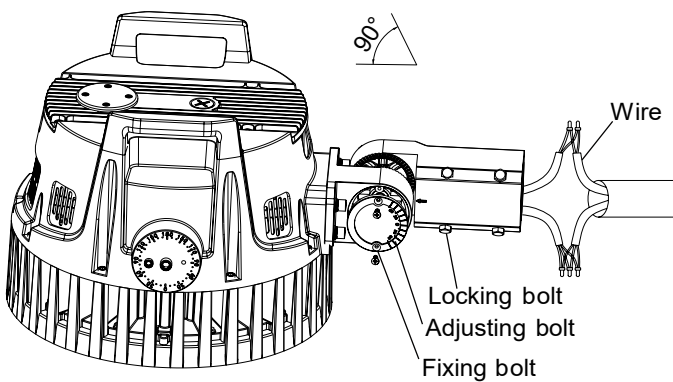
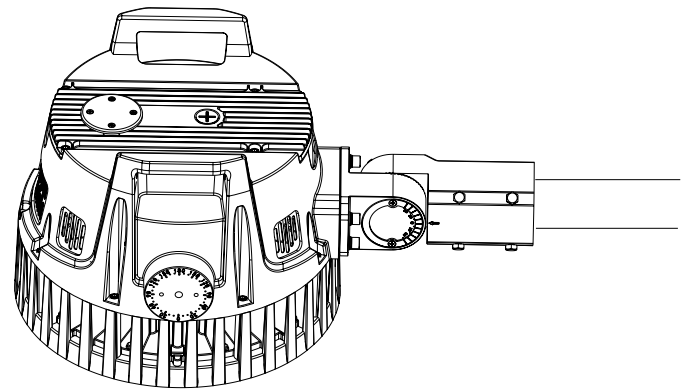

Figure 14
Figure 15
1. Loosen the four (4) locking bolts on the slip fitter, connect the wire correctly, and put the wire into the pole. Then fasten the locking bolts between the slip fitter and the pole (Figure 14).
2. Loosen the fixing bolts and adjusting bolts, align the fixture to the required angle. Tighten adjusting bolt and fixing bolts after the angle is confirmed (Figure 15). Notice: Adjustable angle is 0-90° (Figure 14).